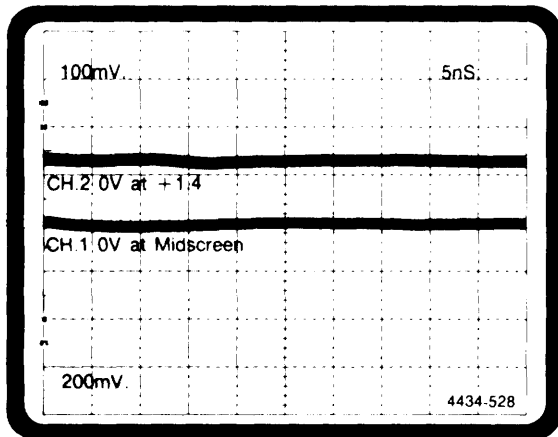

Figure 5-52. 338 Capacitor adjustment oscilloscope setup waveform.
1. Refer to Figures 5-52 and 5-53. Set EXT CLK Threshold to V3 (0.00 V).
5. Repeat the following procedures, (6) through (8), to adjust each clock delay and/or width as shown in Table 5-17.